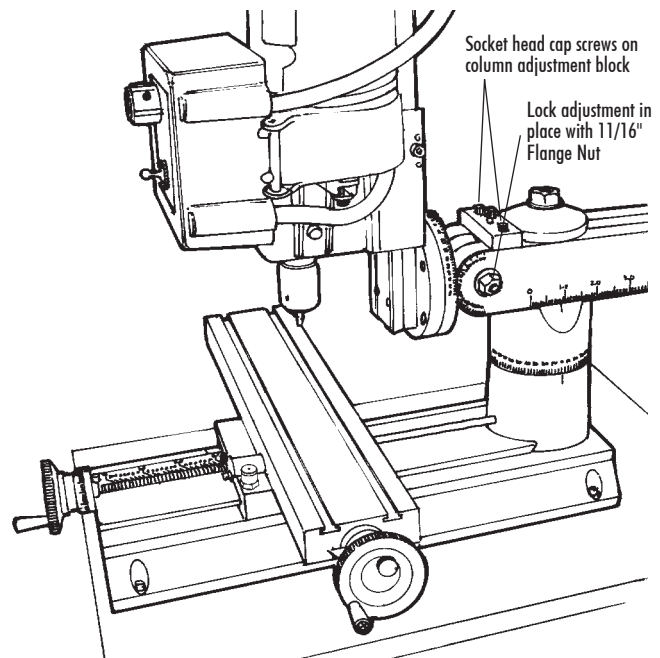

FIGURE 2—Shows the location of the flange nut and the SHC screws on the column adjustment block.
1. Loosen the flange nut (P/N 56230) located on the side of the ram arm (P/N 56330). (see Figure 2).